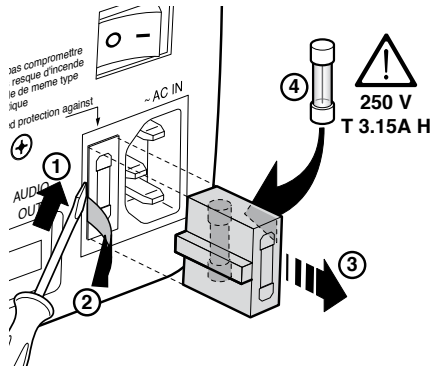

Fig.3
The fuse compartment is next to the power supply connector (Fig. 3). Remove the fuse holder (2) with a flat head screwdriver and replace the fuse (3). Fit a new spare fuse (4). Use only T 3,15 A H fuses.